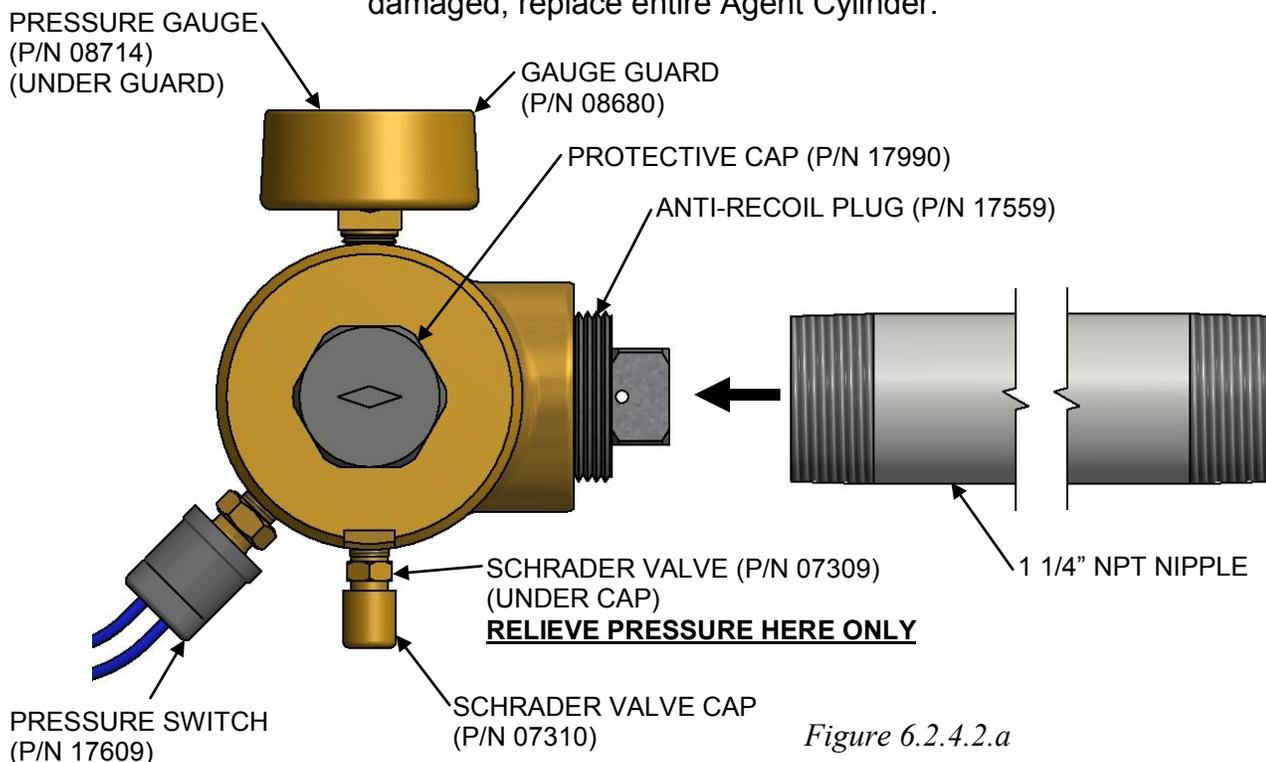

Figure 6.2.4.2.a
10. Remove and discard the Collar O-Ring (See Figure 6.2.4.2.b).